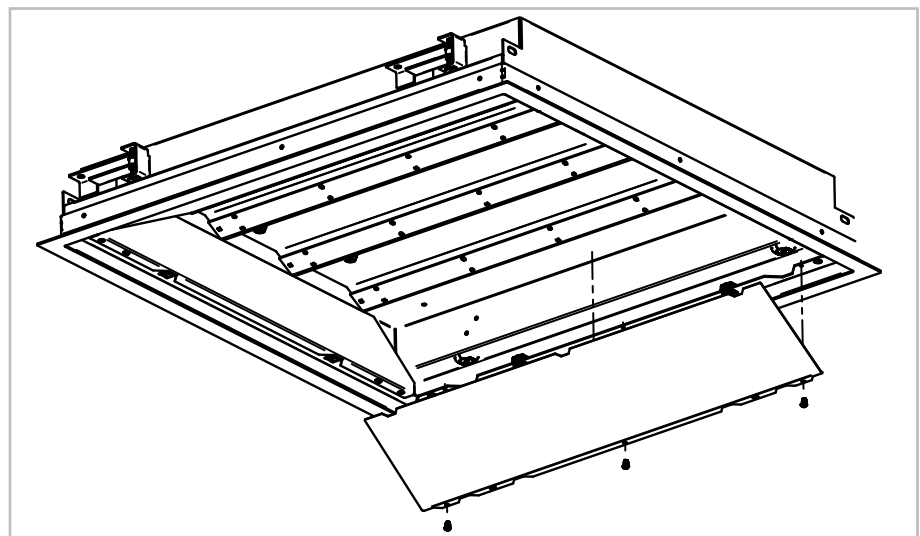

Figure 5: Reflector Removal
6. Remove the reflectors that are secured to the housing with #6 screws. See *Figure 5*.
2. Remove the reflectors that are secured to the housing with #6 screws. See *Figure 5*.